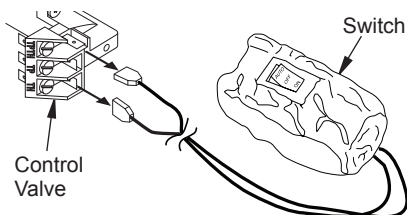

Figure 19- Disconnecting Switch from Control Valve (Remote Ready Models Only)
6. If installed, disconnect AUTO/OFF/ON switch wire from control valve at TPTH and TH locations (see Figure 19).
7. Connect wires from hardware pack (with remote receiver bracket) to control valve at the TPTH and TH locations as shown in Figure 19. Connect other ends of these wires to remote receiver wires.